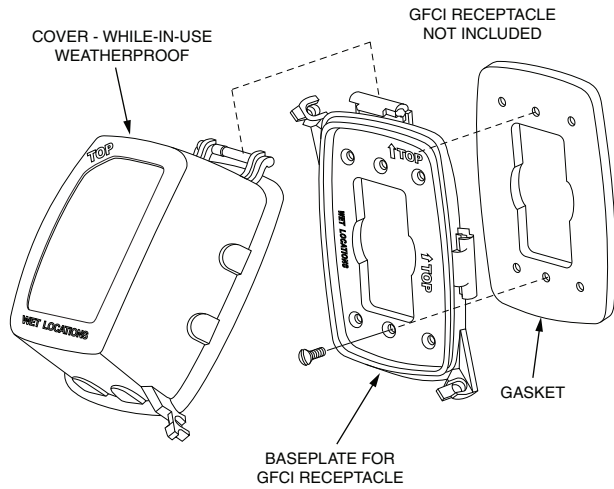

Fig. 22 — Weatherproof Cover Installation
4. Mount the weatherproof cover to the backing plate as shown in Fig. 22.